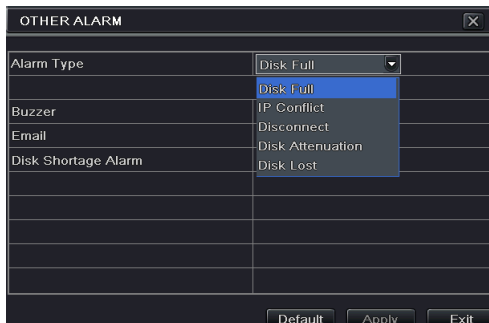

Fig 4-20 Other Alarm
Step 1: Enter into Menu → Setup → Other Alarm. Refer to Fig 4-20: